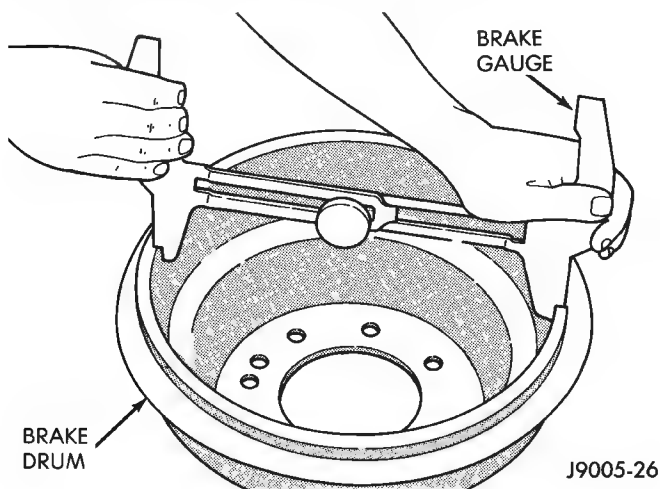
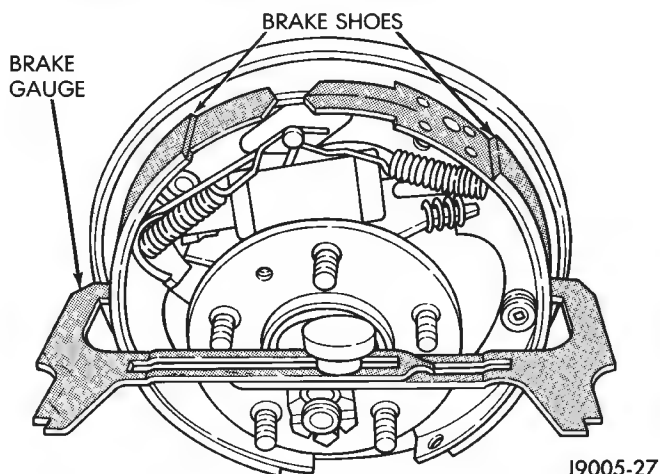

Fig. 6 Adjusting Gauge To Brake Drum
Fig. 7 Adjusting Brakeshoes To Gauge
- (1) Raise and support vehicle rear end and remove wheels and brake drums.
- (2) Verify that left/right automatic adjuster lever and cable are properly connected.
- (3) Insert brake gauge in drum. Expand gauge until gauge inner legs contact drum braking surface. Then lock gauge in position (Fig. 6).
(4) Reverse gauge and install it on brakeshoes (Fig. 6). Position gauge legs at shoe centers as shown. If gauge does not fit (too loose or tight), adjust shoes.
(5) Pull shoe adjuster star wheel away from adjuster lever.
(6) Turn adjuster star wheel (by hand) to expand or retract brakeshoes. Continue adjustment until gauge outside legs are light drag-fit on shoes (Fig. 7).
(7) Repeat adjustment at opposite brakeshoe as-